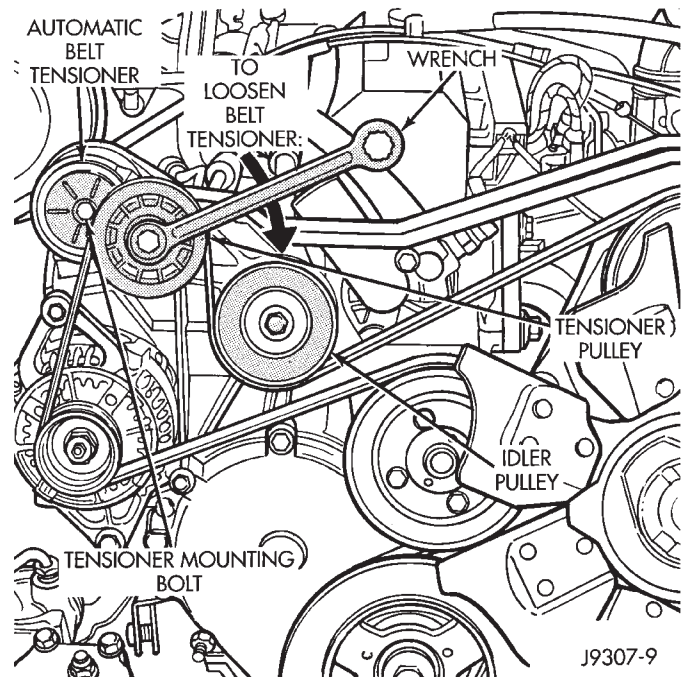

Fig. 10 Automatic Belt Tensioner—4.0L Engine With RHD
The drive belt is equipped with a spring loaded automatic belt tensioner (Fig. 10). This belt tensioner will be used with all belt configurations such as with or without air conditioning.
(1) Attach a socket/wrench to the mounting bolt of the automatic tensioner pulley (Fig. 10).
(2) Rotate the tensioner assembly clockwise (as viewed from front) until tension has been relieved from belt.
(3) Remove belt from idler pulley (Fig. 10) first. Remove belt from automatic tensioner.
(4) Remove tensioner mounting bolt (Fig. 10) from tensioner bracket. Remove tensioner from vehicle. Note alignment pin on the back of tensioner.
(3) Position the drive belt over all pulleys **except** the idler pulley (Fig. 10).
(4) Attach a socket/wrench to the pulley mounting bolt of the automatic tensioner (Fig. 10).
(5) Rotate the socket/wrench clockwise (Fig. 10). Place the belt over the idler pulley. Let tensioner rotate back into place. Remove wrench. Be sure belt is properly seated on all pulleys.